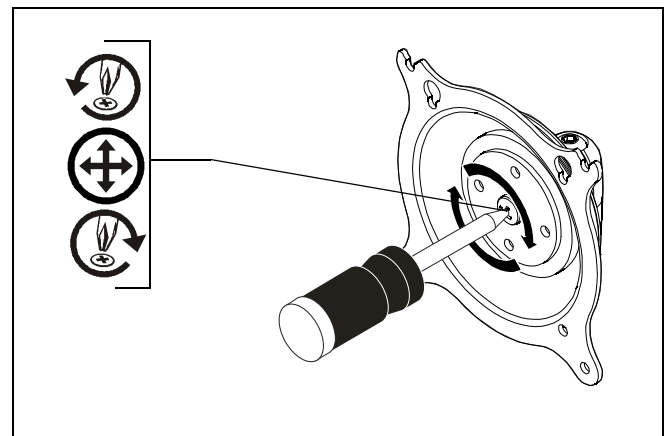

Figure 13
5. Using a Phillips screwdriver turn the tension adjustment screw clockwise to increase tension, or counter-clockwise to decrease tension. (See Figure 13)